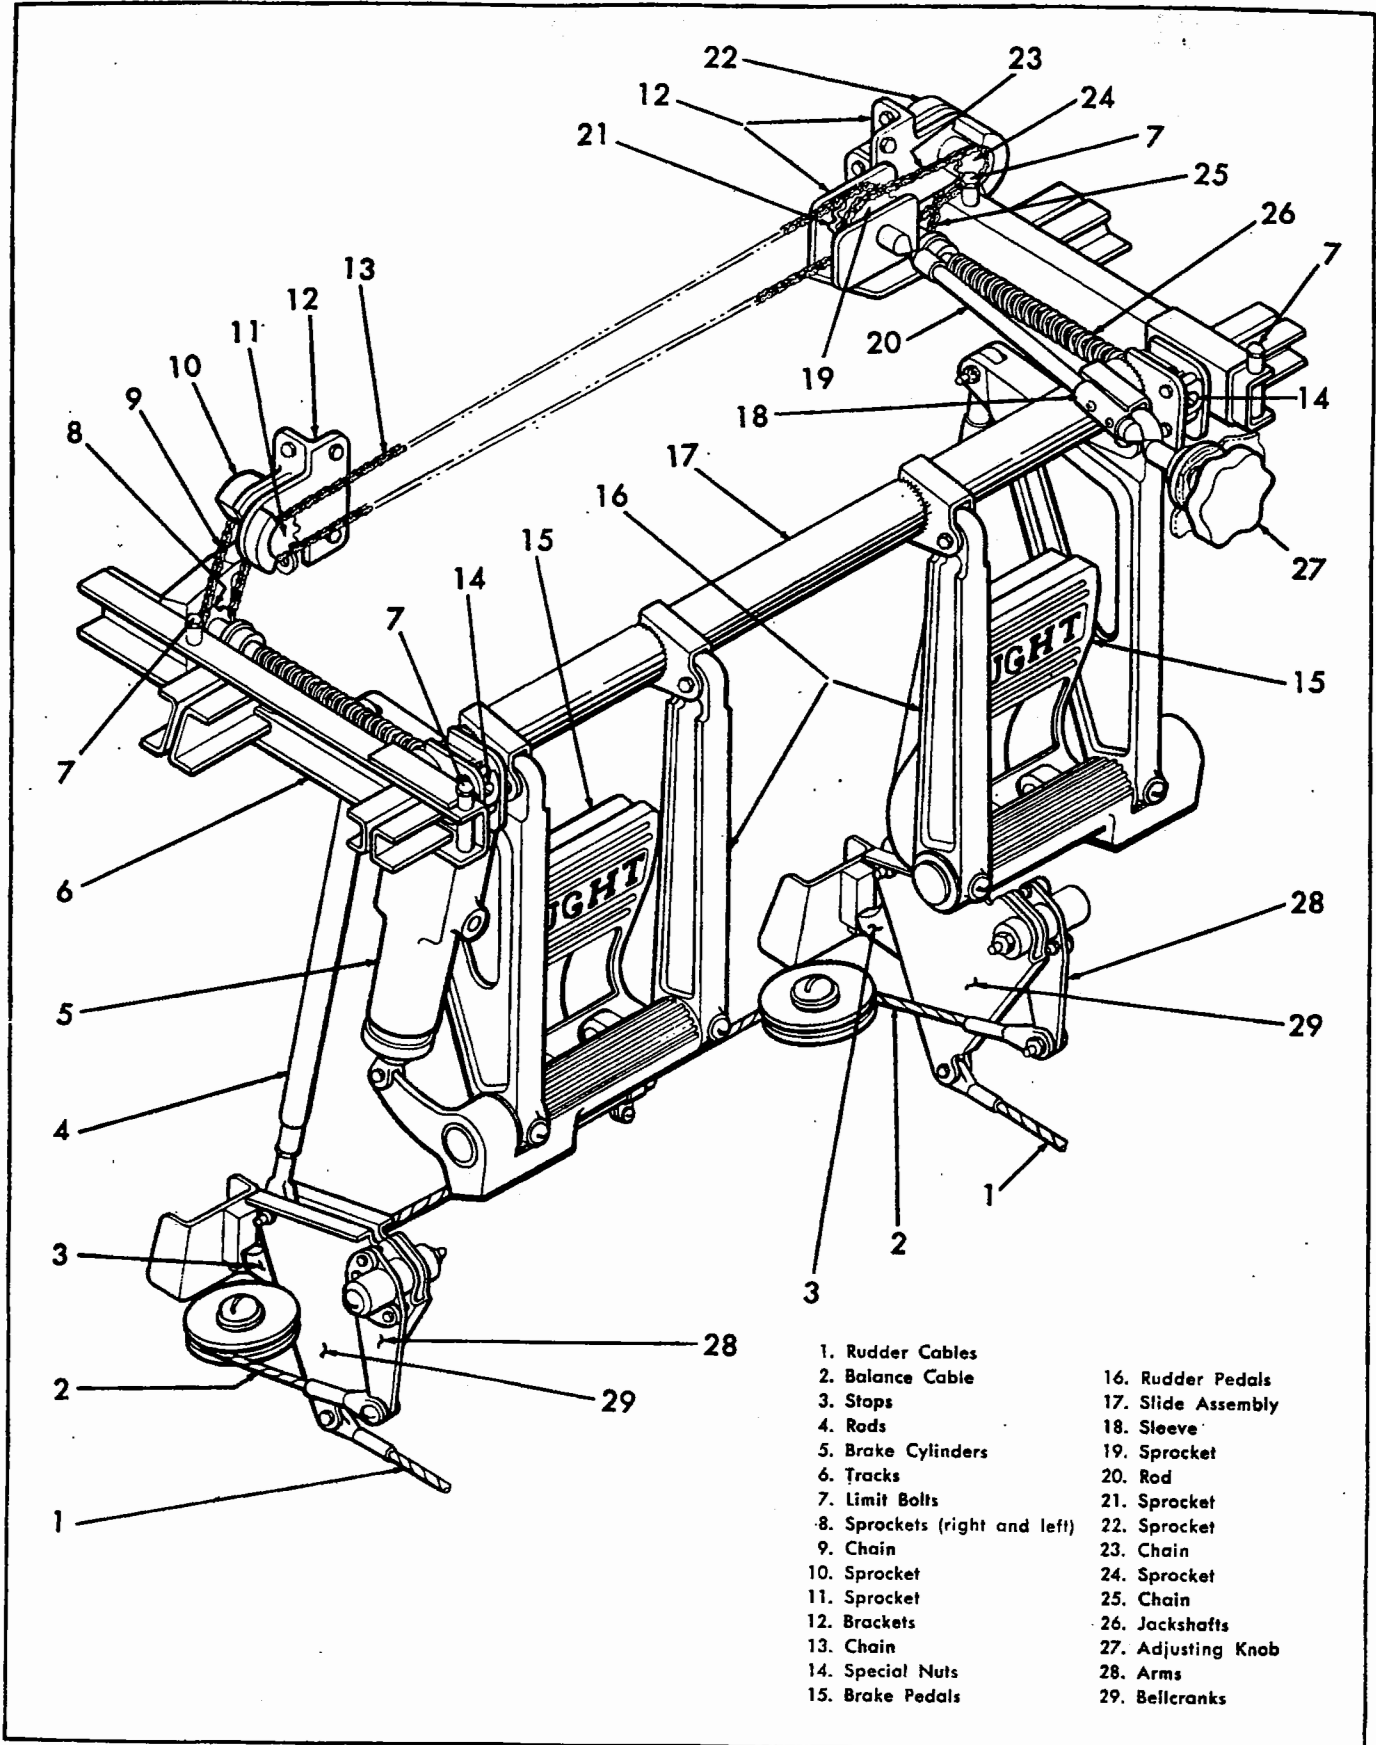

Figure 4-25. Rudder Pedal Control Mechanism.
4-164. DESCRIPTION. (See figure 4-25.) Two rudder
4-168. REMOVING. (See figure 4-25.) Working through cockpit, remove rudder pedals as follows:
4-170. INSTALLING. (See figure 4-25.) Installation of the rudder pedals and adjusting mechanism is the reverse procedure of that described in removal. During installation it is essential that the slide assembly (17) is against either the forward or aft limiting bolts (7) in order that the installation is made parallel to the lateral axis of the airplane; otherwise misalignment of the rudder pedals will occur, and in addition, binding of the adjusting mechanism will result in faulty operation.